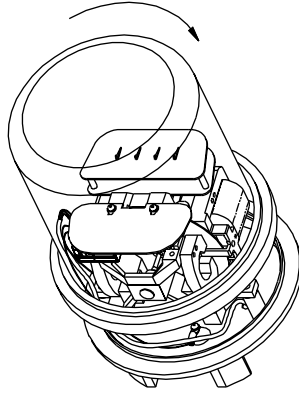

Figure 15. Replacing Cover
9. Replace the cover by screwing it back on in a clockwise direction. Ensure all wires are clear of operational parts. See Figure 15.